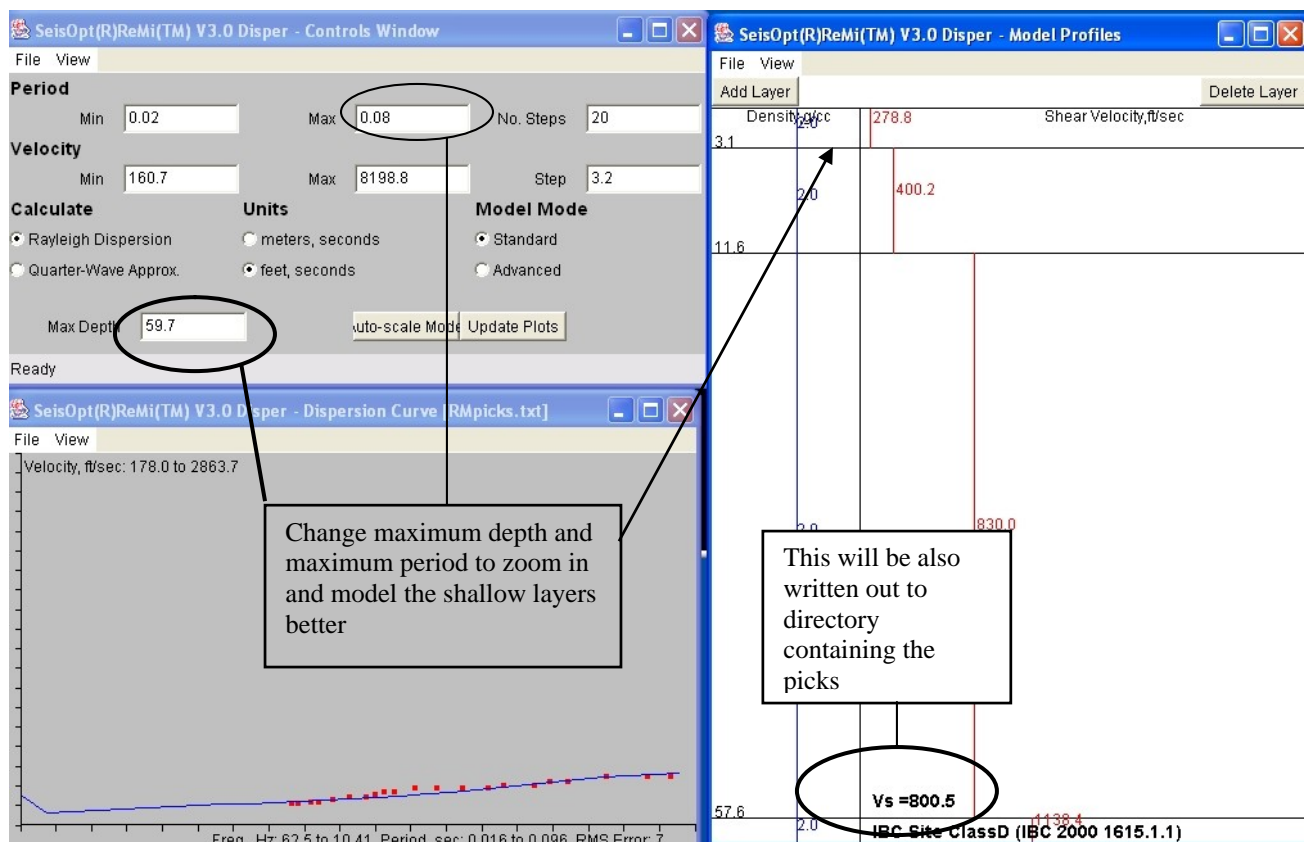

Figure 54e: Decrease 'Max Depth' in 'Controls Window' to zoom in to the shallow layers in order to fine tune them.
19. If you wish to fine tune the shallow layers and need to zoom in, decrease the 'Max Depth' and the 'Max Period' parameters. This will display the shallow layers in greater detail (Figure 54e) and adjust them to fit the high-frequency (low period) picks better, thus decreasing the overall RMS error.